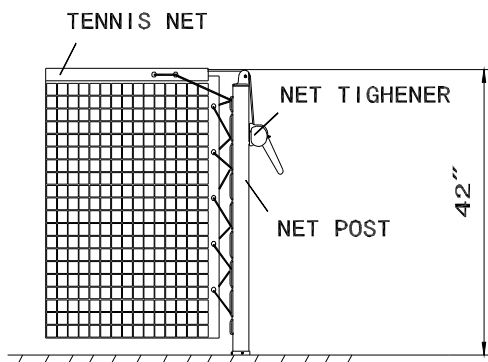

FIG. 7
11. Continue wrapping the cord around the post, through the lacing bars and through the grommets on the tennis net side band, applying equal pressure as you wrap. Tie off the cord at the bottom of the post. Repeat for other post. FIG. 7 shows a properly laced net. Install center strap and adjust it to maintain a net height of 36" at center.